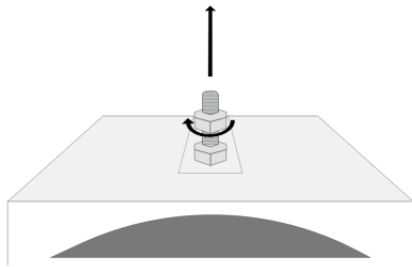

Figure 1
Step 1: Remove the nut from the bolt on top of the beacon (shown in Figure 1).